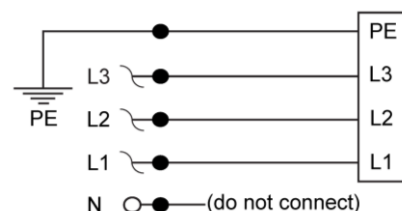

Figure 7.2: The 3 phase connections for AC Mains.
- See Figure 7.2 for the connection schematic.